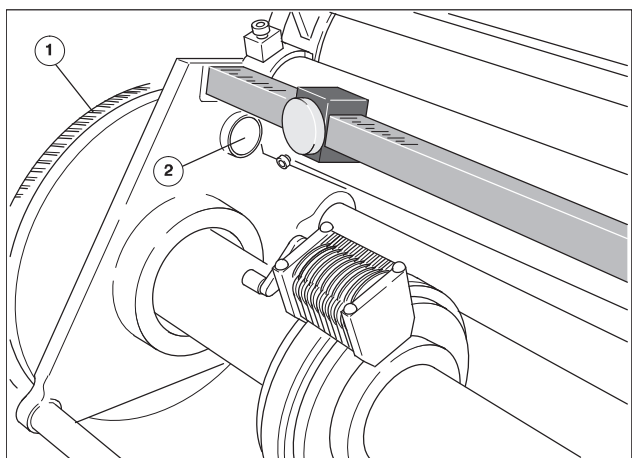
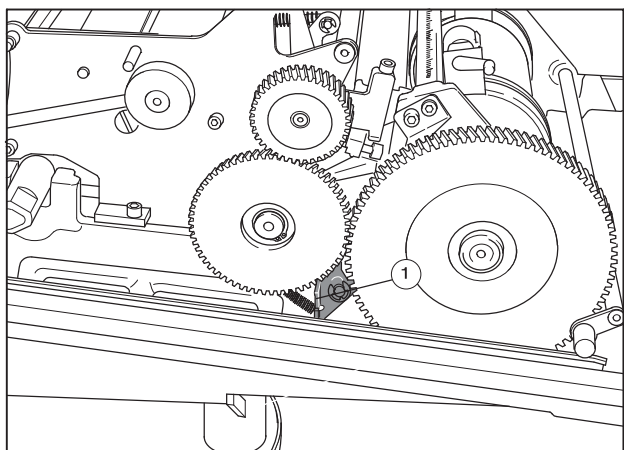

Fig. 56 Locking device at the drive gear
Fig. 57 Ratchet pawl at the drive gear
1. Turn back the brass screw (Fig. 56/2) up to stop to lock the drive gear.
2. Turn the drive gear (Fig. 56/1) until the latch (Fig. 57/1) engages at the gear.